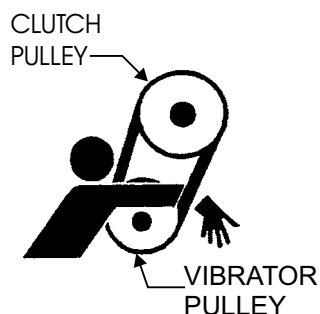

**Figure 30. Engine Air Filter and Element**
1. The air filter element (Figure 30) should be cleaned because a clogged air cleaner can cause poor engine starting, lack of power and shorten engine life substantially.
2. To clean or replace air filter loosen the wing nut on the air filter housing (Figure 30) remove the cover and take out air filter cartridge. If only cleaning of the air filter is desired blow through the air filter cartridge from the inside, moving a jet of dry compressed air up and down until all dust is removed.